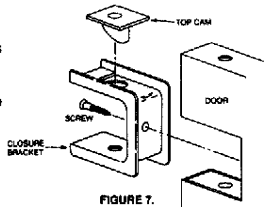

FIGURE 7.
- Insert a top nylon cam into the upper and lower door hinge closure bracket as illustrated so that cam base is flush with inner bracket surface. See figure 7.
- Insert each door hinge closure bracket (with top cam in place) into the upper and lower openings in the door, anchoring with #10x1" screw. See figure 7.